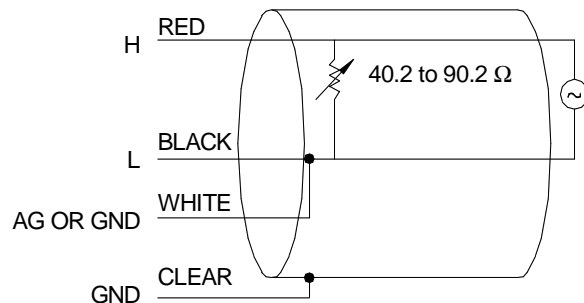

FIGURE 3-1. LI200X Schematic
Measure the LI200X with instruction Differential Voltage (P2). A schematic diagram of the LI200X is shown in Figure 3-1. The red lead is connected to the high side (H) of any differential channel. The black lead is connected to the corresponding low (L) side of the differential channel. On a CR10(X), the white lead is connected an analog ground (AG) and clear to ground (G). On a 21X the white and clear leads are connected to ground (G).